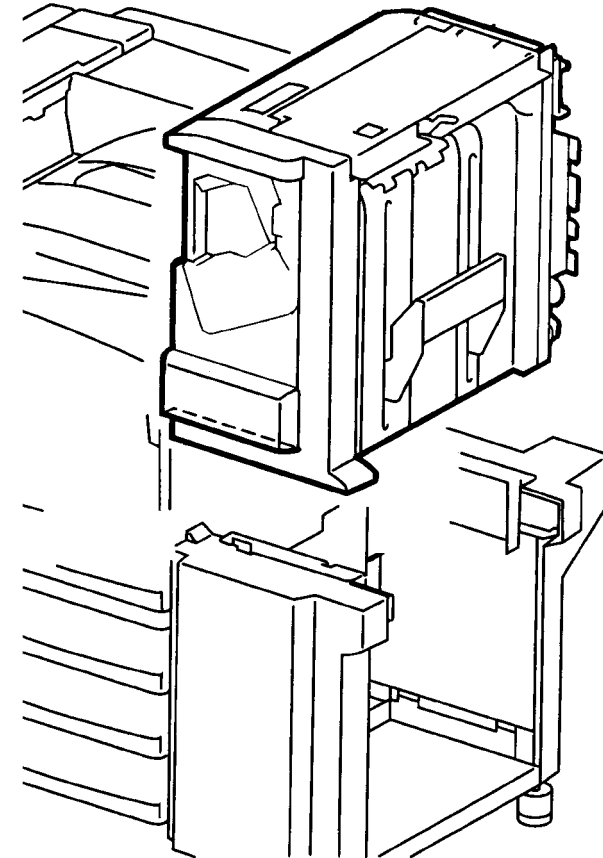

Figure 2 Removing Finisher from Rack
4. Lift the Finisher from the Rack (Figure 2).